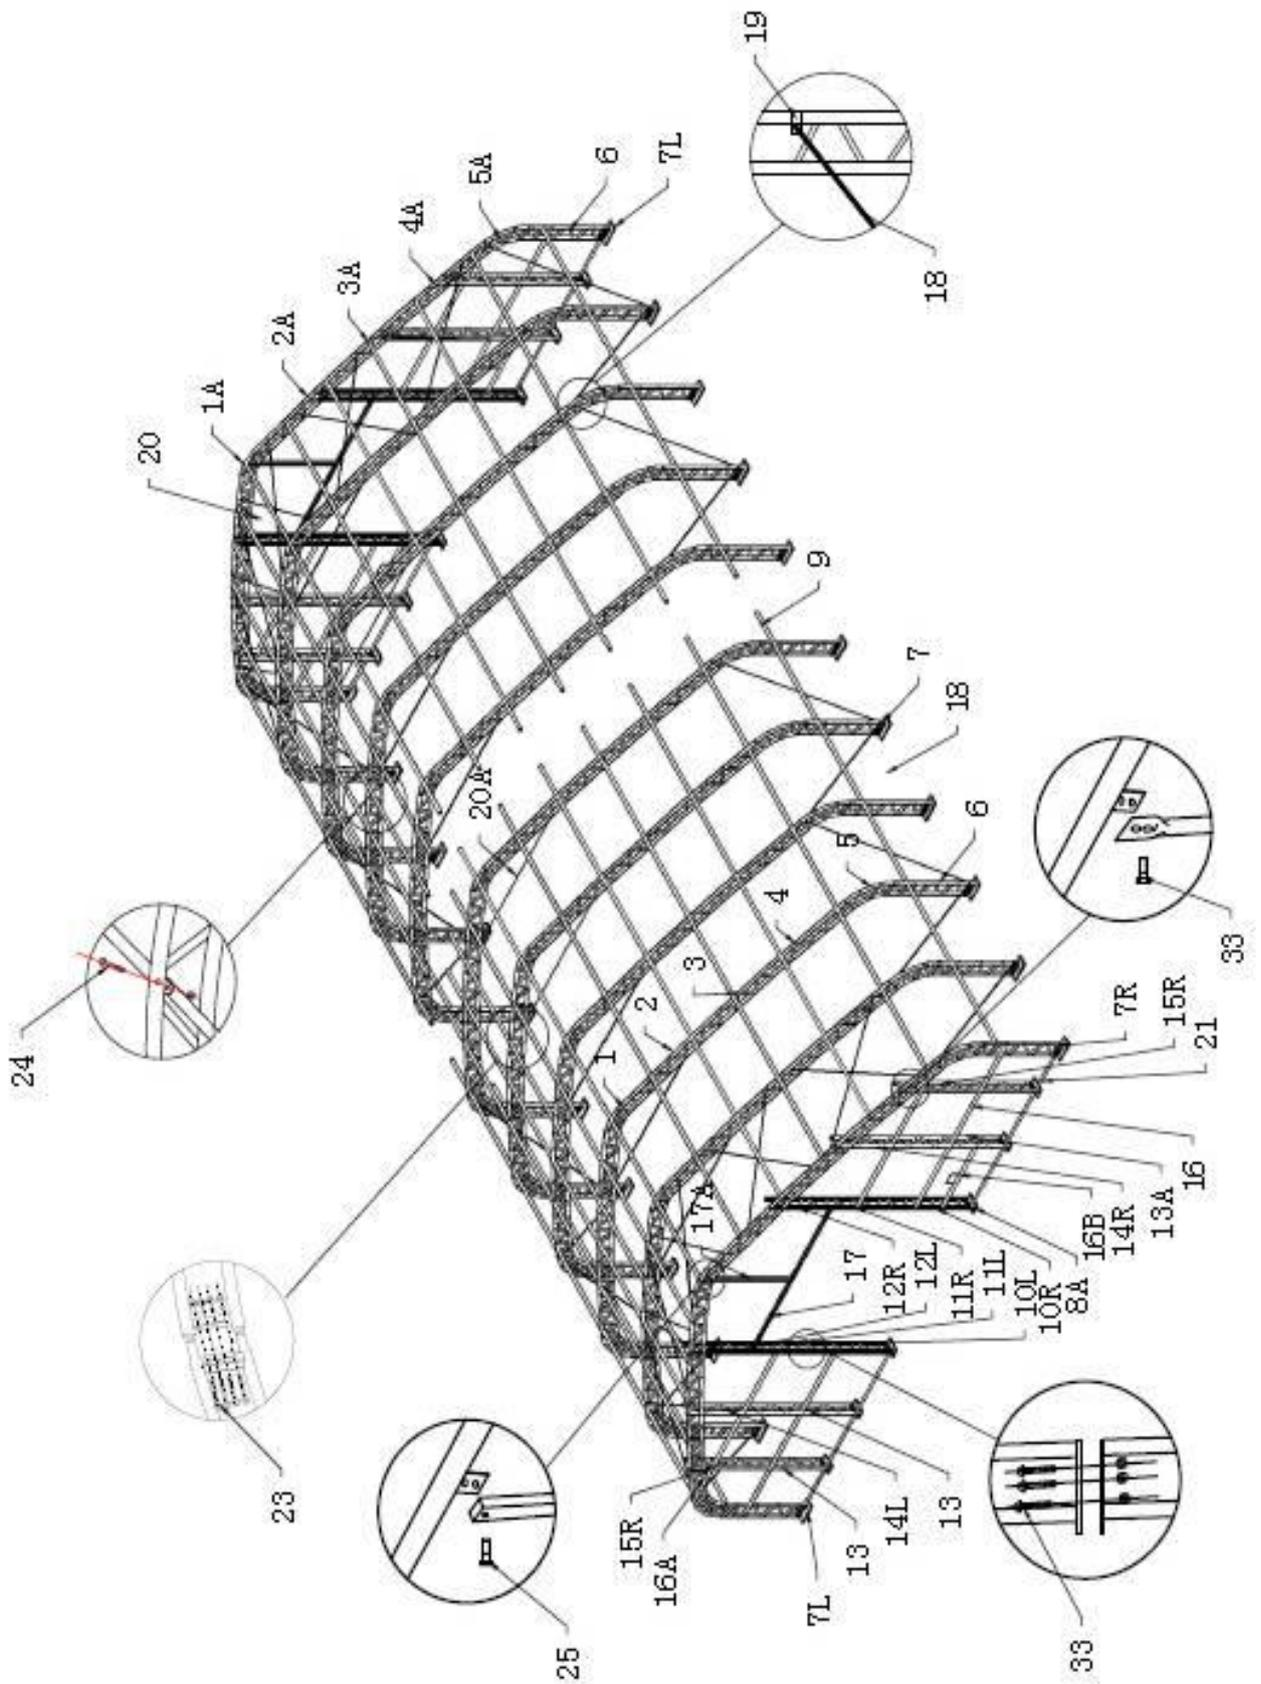
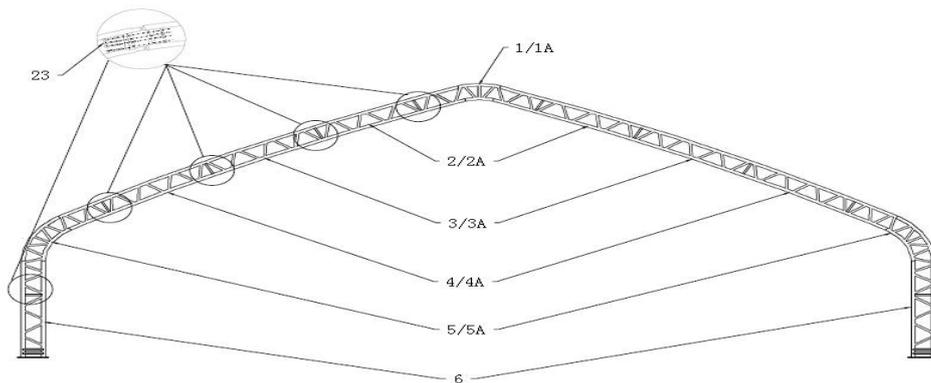
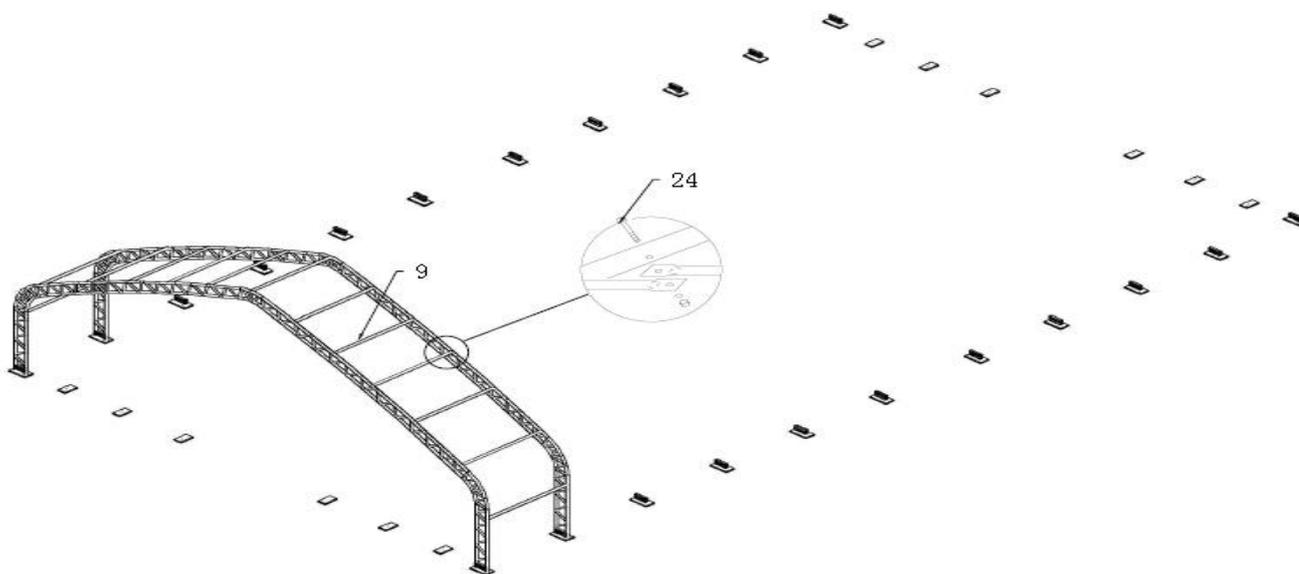

Figure 1: Sketch of trussed frame
Figure 3
Figure 4
1. Figure 3 shows to connect the Top roof tube(No.1/No.1A), Upper curving tube(No.2/No.2A), Middle curving tube(No.3/No.3A), Lower curving tube(No.4/No.4A), Sidewall curving tube (No.5/No.5A) and Standing leg(No.6) with Bolt M12x50(No.23), which makes in one arch, then put the arch into tube of Base plate by Hoist, and assemble every group of arch by turns.(see Figure 4).
2. Connect Purlin(No.9) to arch by using Bolt 12x100(No.24) by turns(see Figure 4), then connect the Steel wire(No.18 and No.20) on top and side by using Clip(No.19)(see Figure 1)